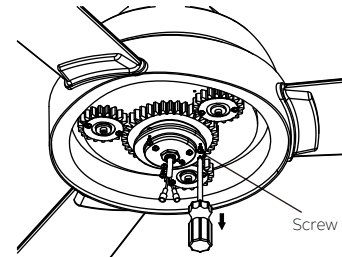

Fig. 21
Step 1. Remove three (3) screws as shown and save for later use. (Fig. 21)